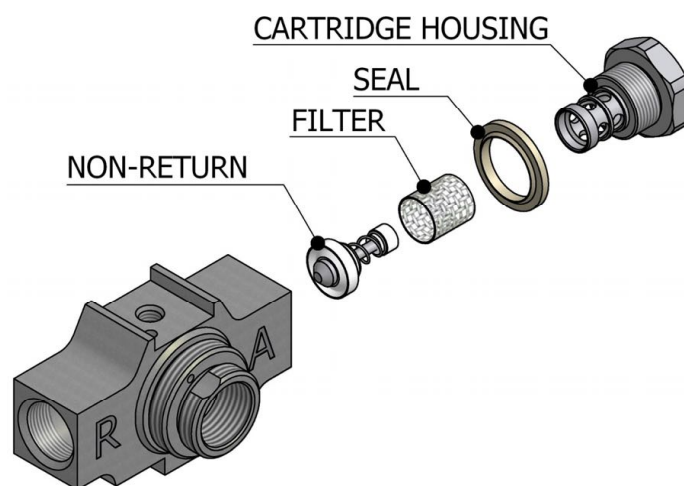

Figure. 19
6. Remove the non-return unit and filter from the Polyol side on the mixing block. Clean the unit with gun-cleaning solvent and also the block housing (see **Figure. 19**, page 18).
7. Remove the non-return unit and filter from the Isocyanate side on the mixing block. Clean the unit with gun-cleaning solvent and also the block housing (see **Figure. 19**, page 18).
6. Unscrew the Isocyanate side cartridge by turning it anti-clockwise, remove it from its housing (see **Figure. 19**). Clean the housing with gun cleaning solvent and make sure no loose particles remain inside.
12. Remove the non-return and filter units of both products (see **Figure. 19** page 18). Clean the non-return units and the corresponding housings with gun-cleaning solvent. Fit the non-return units, the filters, the seals and the cartridge housing in separate vessels with gun cleaning solvent.